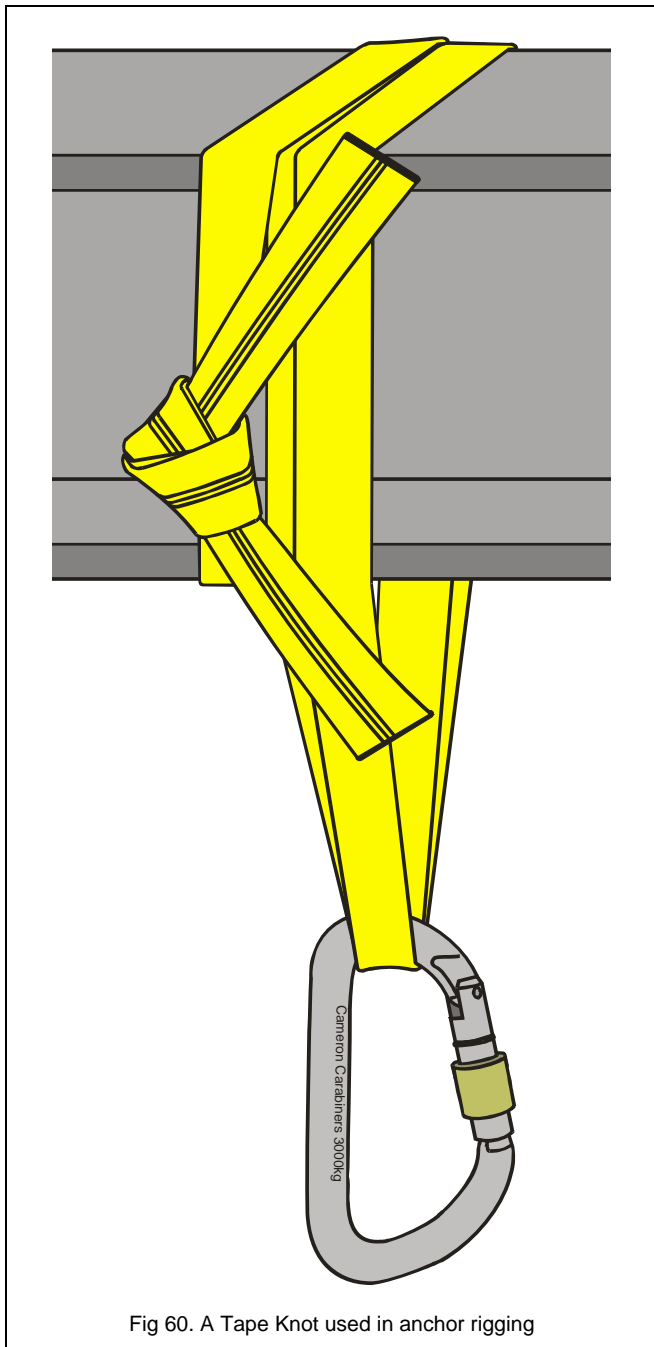

Fig 60. A Tape Knot used in anchor rigging
- Can be used to construct tape slings for rigging applications as shown in figure 60.